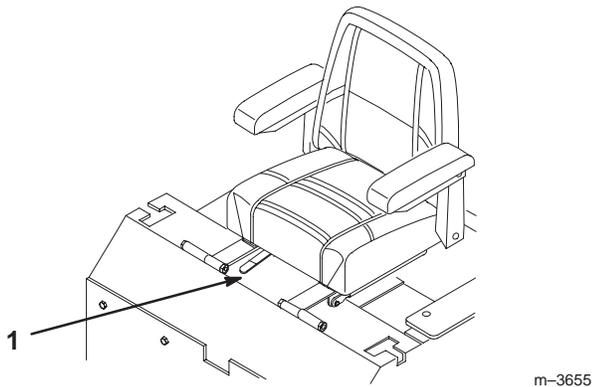

Figure 25
1. To adjust, move the lever sideways to unlock seat (Fig. 25).